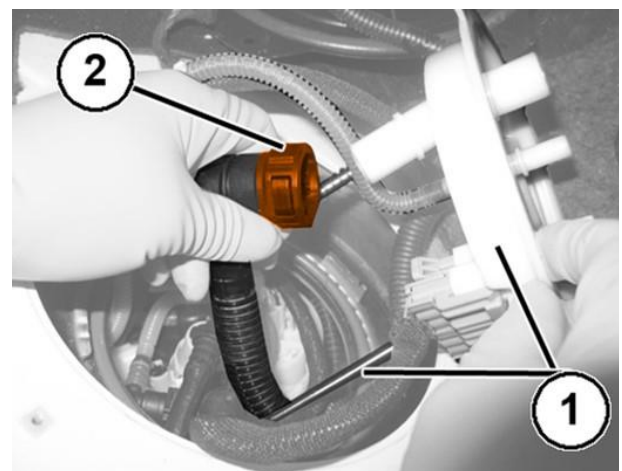

Figure 5 – Fuel Pump Drum Flange
13. Release the guide pins and lift the pump drum flange (1) (Figure 5).
14. Disconnect the quick coupling for the fuel breather and vapor recovery pipe (2) (Figure 5).